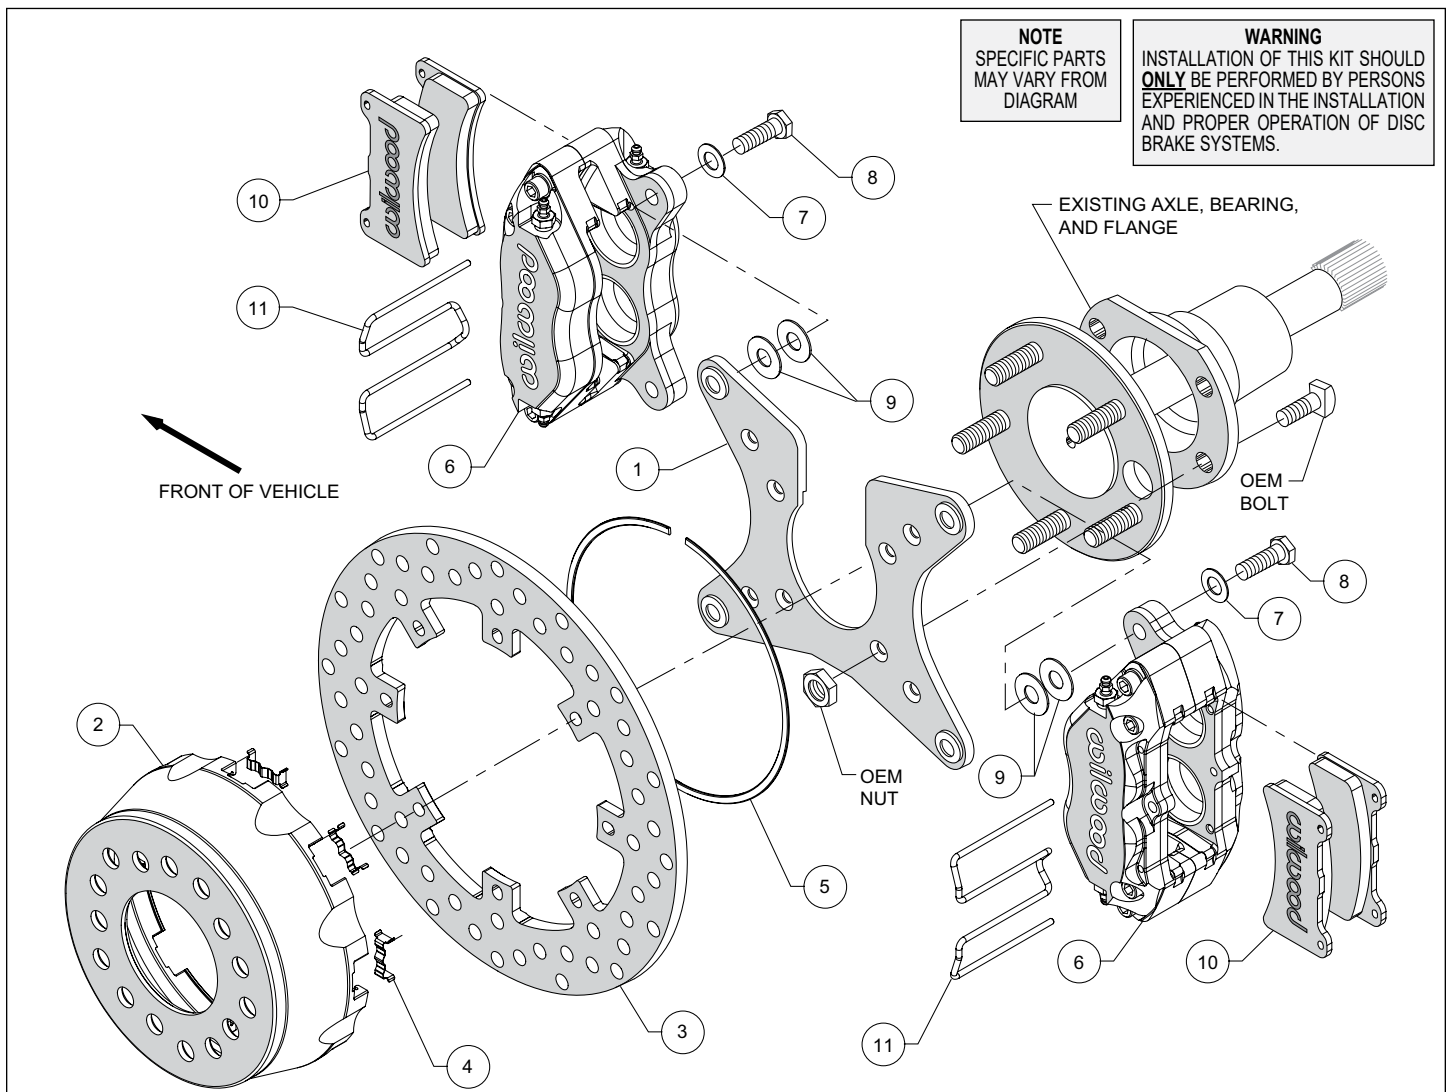
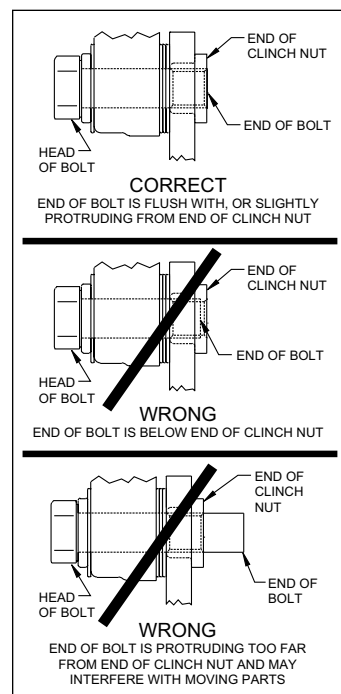

Figure 1. Typical Installation Configuration
Figure 5. Clinch Nut Engagement Diagram
Assembly Instructions (numbers in parenthesis refer to the parts list and Figure 1 on the preceding pages): **CAUTION:** All mounting bolts must fully engage clinch nuts. Be sure to check that all bolts are either flush or protruding through flanged side of clinch nut after shimming, Figure 5.
- Install the caliper mounting bracket (1), with the slot for the axle pointing upward, to the housing flange using the OEM bolts and nuts, as shown in Figure 1 and Photo 1. Ensure that the caliper mounting ears on the bracket are oriented fore and aft on the car, with the heads of the clinch nuts facing outboard, Photo 1. Apply red *Loctite*® 271 to the OEM bolt threads and torque to OEM specifications.
- Insert the dynamic mount wear plates (4) into the slots in the hat (2) making sure the tabs snap in place, Photo 2. Orient the rotor (3) as shown in Figure 1 and Photo 3, with the flush mount tab side facing the hat. Attach the rotor to the hat using snap ring (5) by pushing down on the rotor and installing the ring into the groove in the hat, as shown in Photo 4. Ensure that the ring is fully engaged in the groove.
- Align the correct hole pattern in the hat (2) with the axle stud pattern and slide the hat/rotor assembly onto the axle hub. **NOTE:** The hat must fit flush against the axle flange or excessive rotor run out may result. Install three lug nuts (finger tight) to keep the hat/rotor in place while continuing with the installation. **NOTE:** Some OEM and aftermarket axles come with stud sizes larger than 0.50" diameter. Verify stud size, and if necessary, have a qualified machine shop drill the hats to the correct size.
- NOTE:** Please reference the caution statement at the beginning of the assembly instructions. Mount one caliper (6) onto the mounting bracket (1) using bolts (8) and washers (7), as shown in Figure 1. Initially place two .035" thick shims (9) on each bolt between the caliper and the bracket, Photo 5. Temporarily tighten the mounting bolts and view the rotor (3) through the top opening of caliper. The rotor should be centered in the caliper, Photo 6. If not, adjust the caliper by adding or subtracting shims between the bracket and the caliper. Always use the same amount of shims on each of the two mounting bolts. **NOTE:** The end of each bolt must be flush with or slightly protruding from the head of the clinch nut. If necessary, place spare shims between washer and caliper mounting ear to achieve the proper clinch nut engagement, as shown in Figure 5.